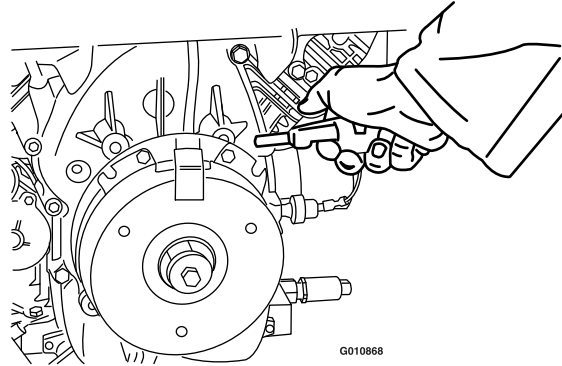

**Figure 64**
3. Remove the dust cap from the caster and tighten the locknut (Figure 64).
4. Tighten the locknut until the spring washers are flat and then back off a 1/4 turn to properly set the pre-load on the bearings (Figure 64).
**Important:** Make sure that the spring washers are installed correctly as shown in Figure 64.
5. Install the dust cap (Figure 64).